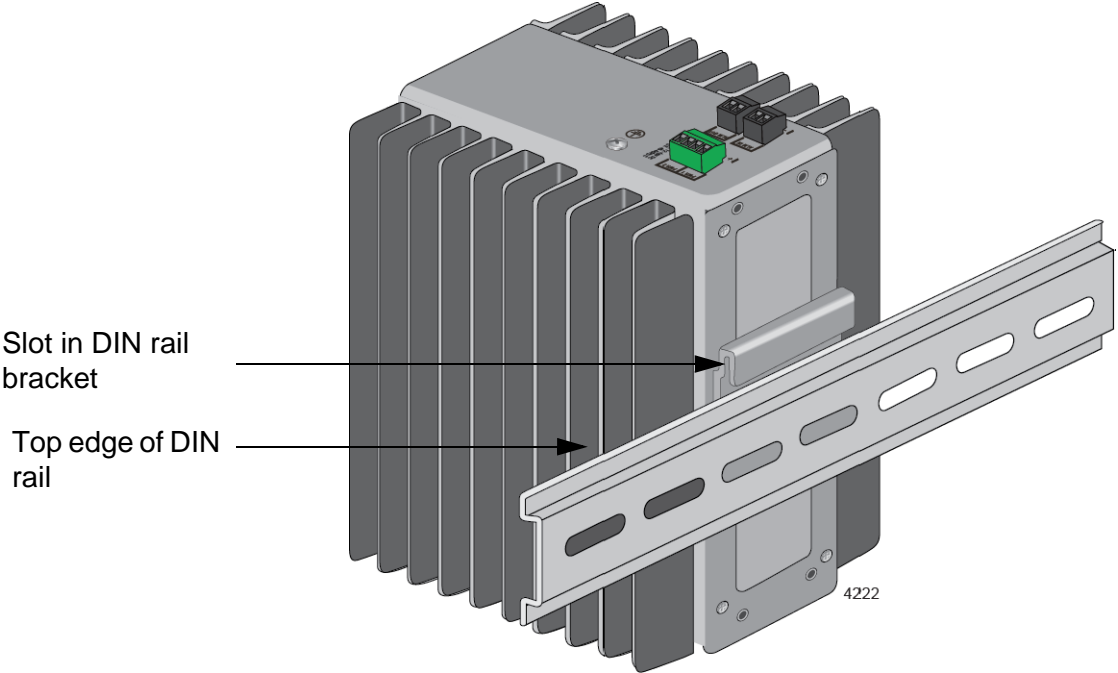

Figure 18. Installing the Switch on a DIN Rail - 1
1. Slide the slot on the top of the DIN rail bracket onto the top edge of the DIN rail. Refer to Figure 18 on page 63.